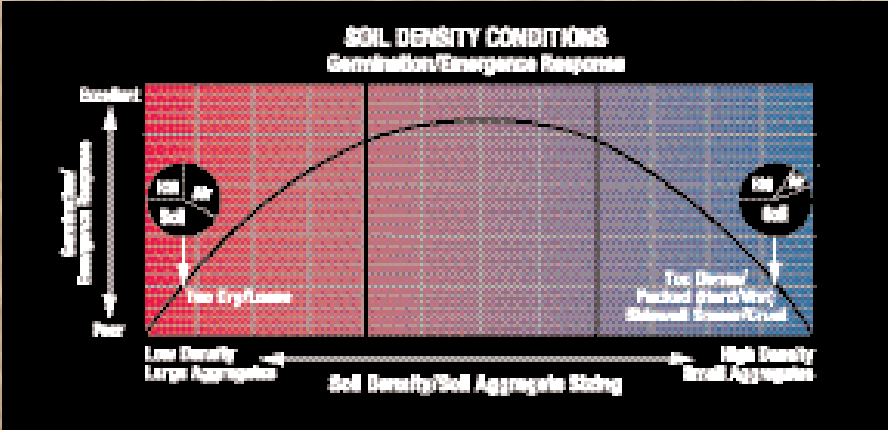

FIGURE 4. The optimal germination/emergence response is achieved with a soil that doesn't have a lot of clods, but isn't packed too much either.
- **Increase soil density to produce better seed-to-soil contact**, but be careful not to go too far and pack the soil (see Figure 4).